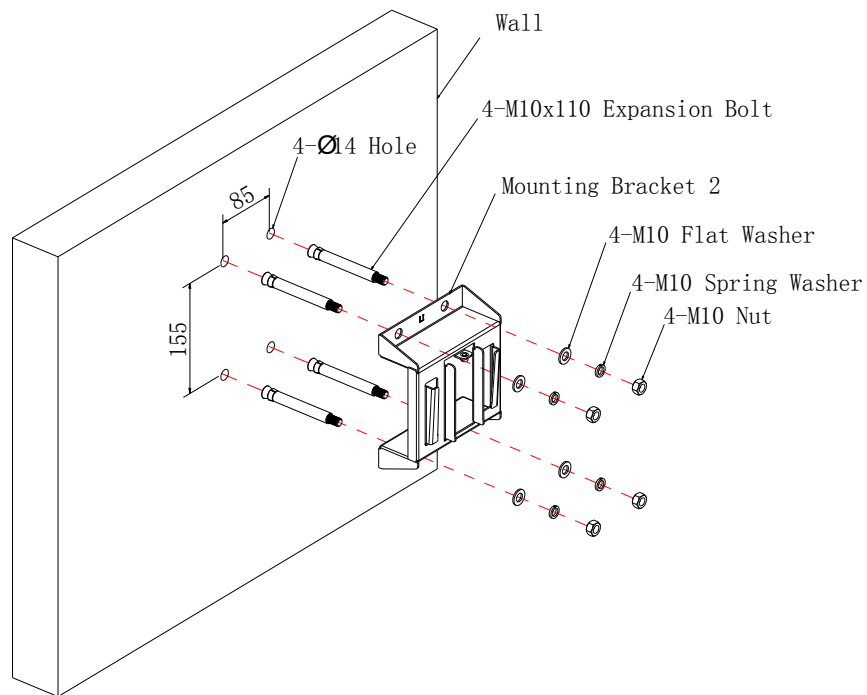

Figure 6 Mounting Bracket 2 Installation Diagram
Step 3: use hammer push 4 M10 expansion bolt into the hole of the wall, fix the mounting bracket 2(RRH-3522-5832) to the wall according the Figure 6.